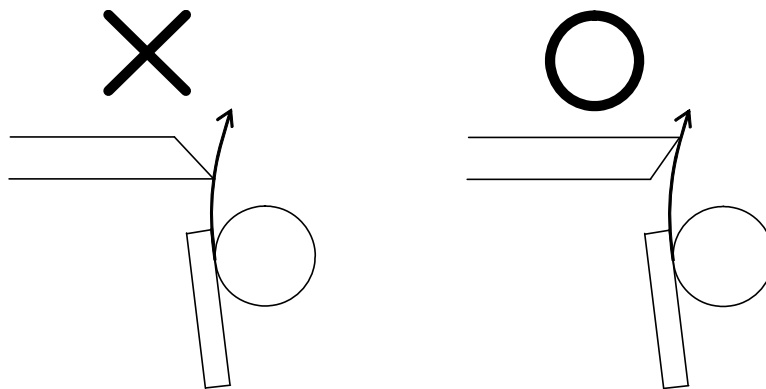

Figure 6-10 Blade Edge
- Design the blade edge of the cutter as shown in the right figure of Figure 6-10 so that the blade edge can guide the thermal paper edge after cutting. If designing the blade edge as shown in the left figure, the paper edge may be caught by the blade edge and result in the thermal paper edge to be caught inside of the cutter.